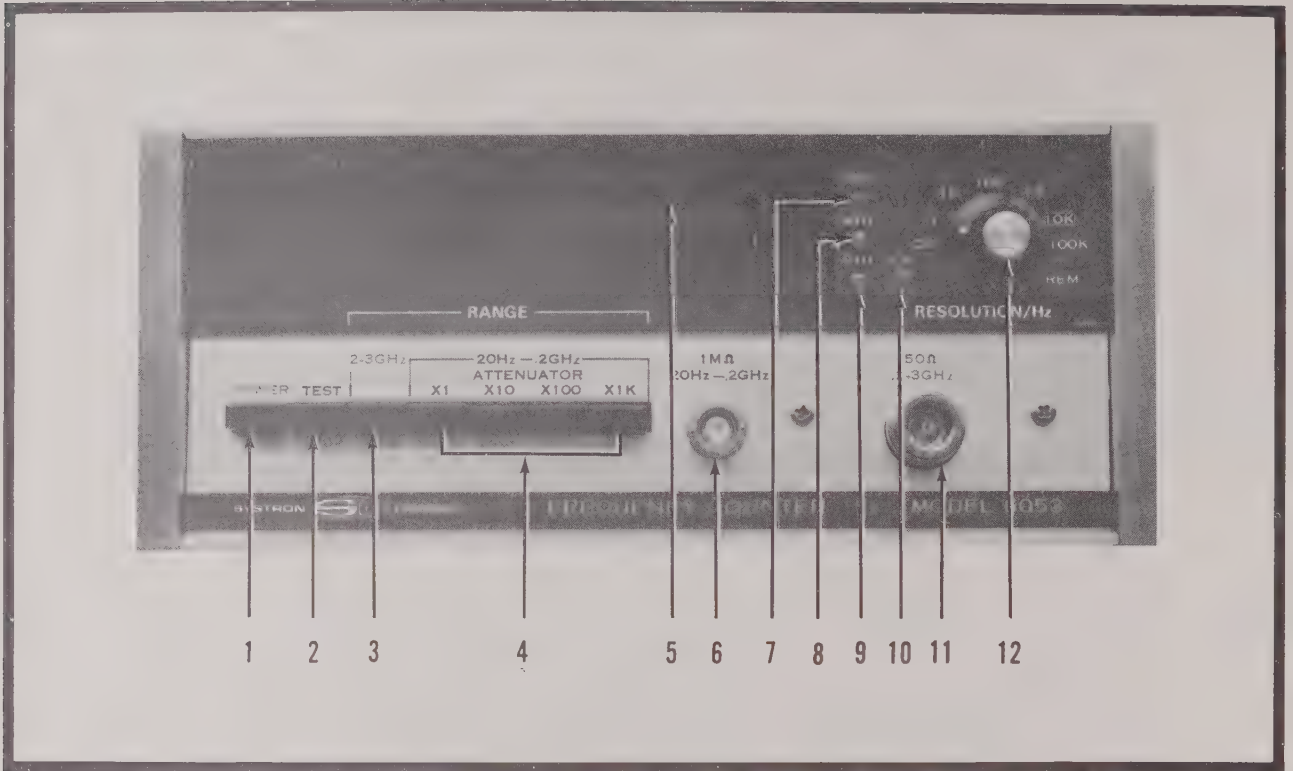

FIGURE 3.1 FRONT PANEL, MODEL 6053/3
Figures 3.1 and 3.2 illustrate the Model 6053/3 front and rear panel controls, connectors, and indicators. Table 3.1 and 3.2 provide a description of these functions.
3. Press POWER pushbutton to ON (Index 1, Figure 3.1).
4. Press TEST pushbutton to ON (Index 2, Figure 3.1).
5. Check instrument readout (Table 3.3) while turning RESOLUTION/Hz switch through the (7) selectable ranges.